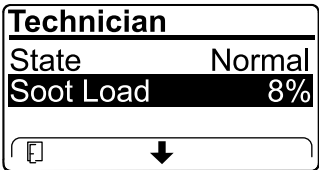

Figure 73
- View the soot load which is measured as the percentage of soot in the DPF(Figure 73); refer to the soot-load table.